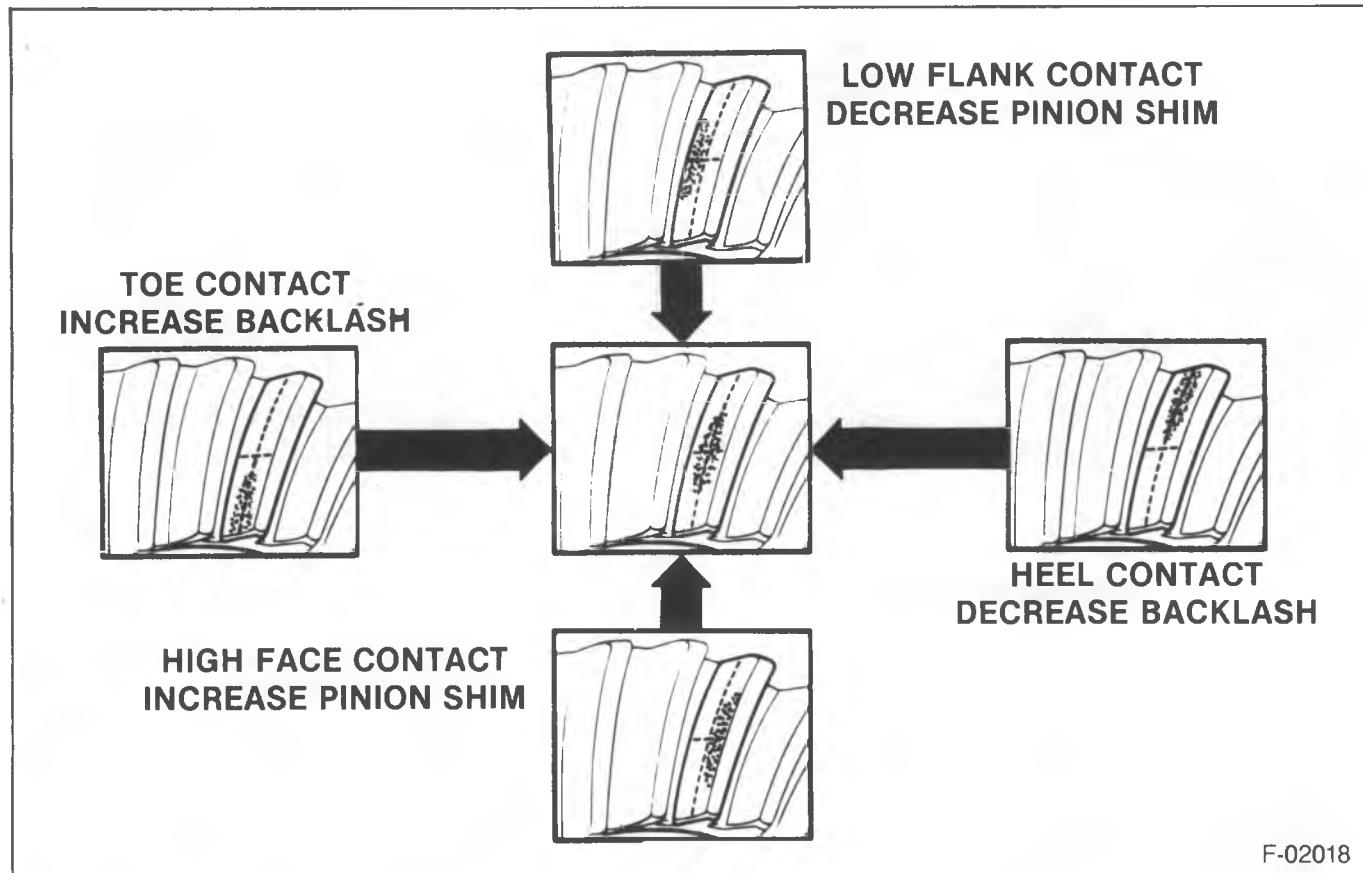

Figure 21—Gear Tooth Pattern
5. Observe the pattern on the ring gear teeth and compare this with figure 21.